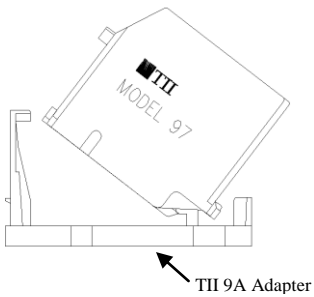

Figure 3
2. **Installing the 97 ADSL POTS Splitter Module into CAC® 7600 Footprint NID:** Install the ADSL POTS Splitter Module in the TII 9A adapter by snapping it onto the adapter (see Figure 3). This assembly will then fit into any one of the CBM module positions in the NID by snapping it into the base.